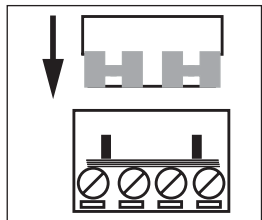

Fig 3 Continuity link
3. If a loop continuity test is to be done, it should be carried out before securing the call point to the backbox (step 5). Insert the continuity links supplied with the backbox (**Fig 3**) into the terminal blocks before testing. After testing for continuity remove the connectors and store for re-use.